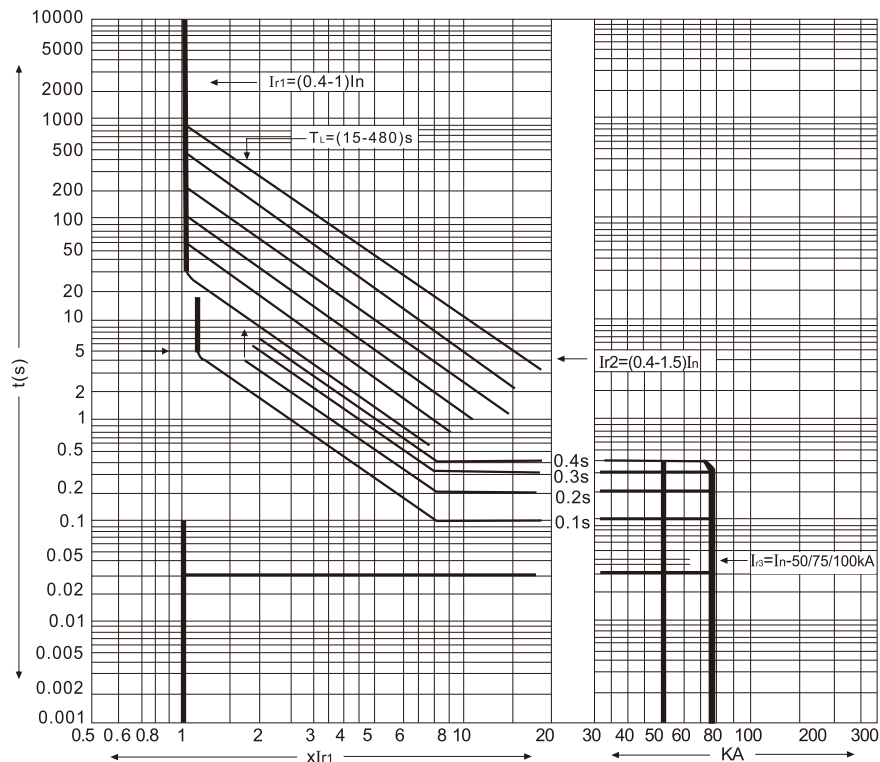
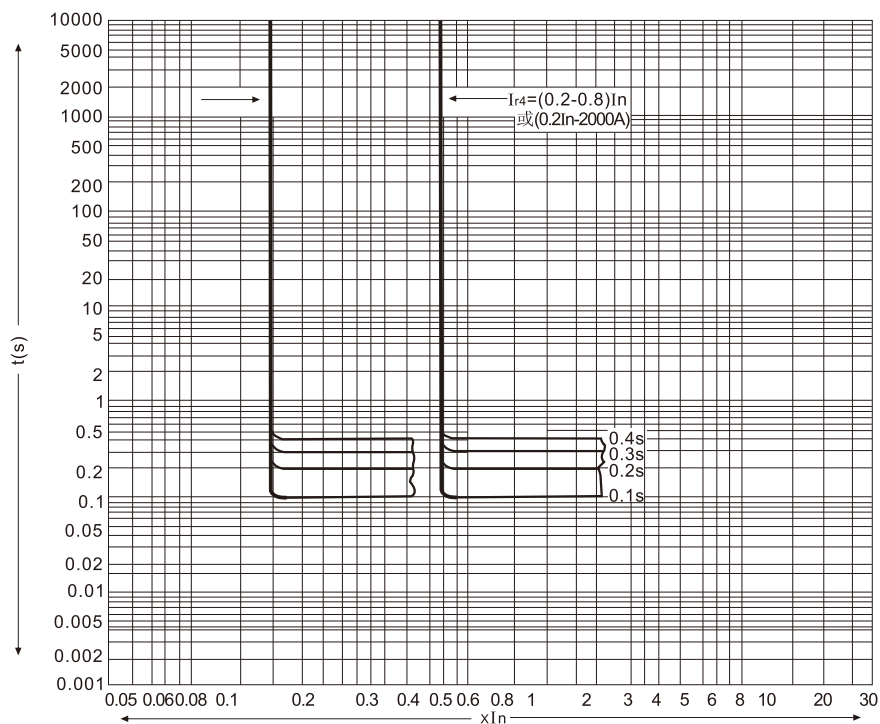

Fig. 1
Fig. 2
- ☐ Overcurrent controller protection characteristic curve: long delay, short delay, instantaneous action protection characteristic curve is shown in Figure 1; Ground fault protection characteristic curve is shown in Figure 2.
D. The protection characteristics of over current trip are shown in Figure 1, and the protection characteristics of ground fault are shown in Figure 2.
Overcurrent trip protection characteristics are shown in Figure 1
Ground fault protection characteristics are shown in Figure 2